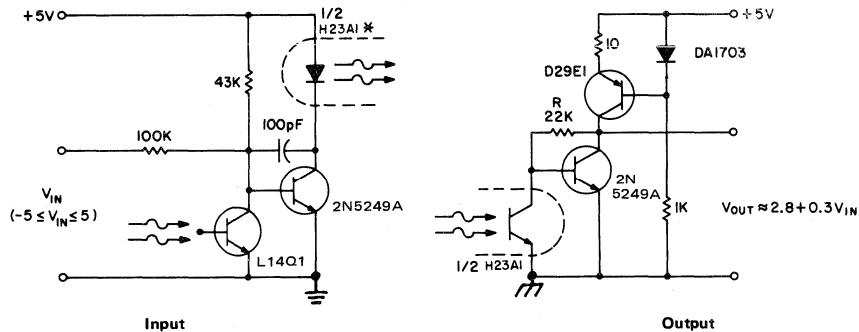

Fig. 101 - Linear optical coupler circuit.
**DC Linear Coupler** —The accuracy of direct linear coupling of analog current signals via an optocoupler is determined by the coupler linearity and its temperature coefficient. Use of an additional coupler for feedback can provide linearity only if the two couplers are perfectly matched and identically biased. These are not practical constraints in most equipment designs and indicate the need for a different design approach. One of the most successful solutions to this problem can be illustrated by using an H23 emitter-detector pair and an L14H4, as illustrated in Figure 101. The H23 detector and L14H are placed so both are illuminated by the H23 IRED emitter. Ideally, the circuit is mechanically designed such that the H23 emitter may be positioned to provide  $V_{OUT} = 2.8V$  when  $V_{IN} = 0$ , thereby